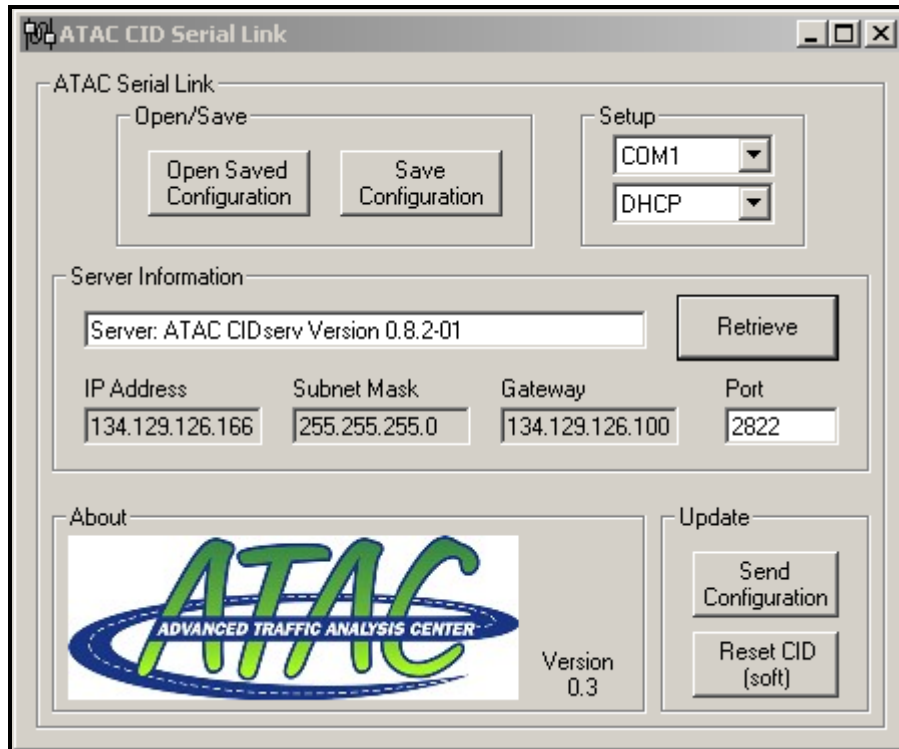

Figure 1.1. SerUpdt Screenshot
4. Locate and execute the SerUpdt.exe program, it should look similar to Figure 1.1.